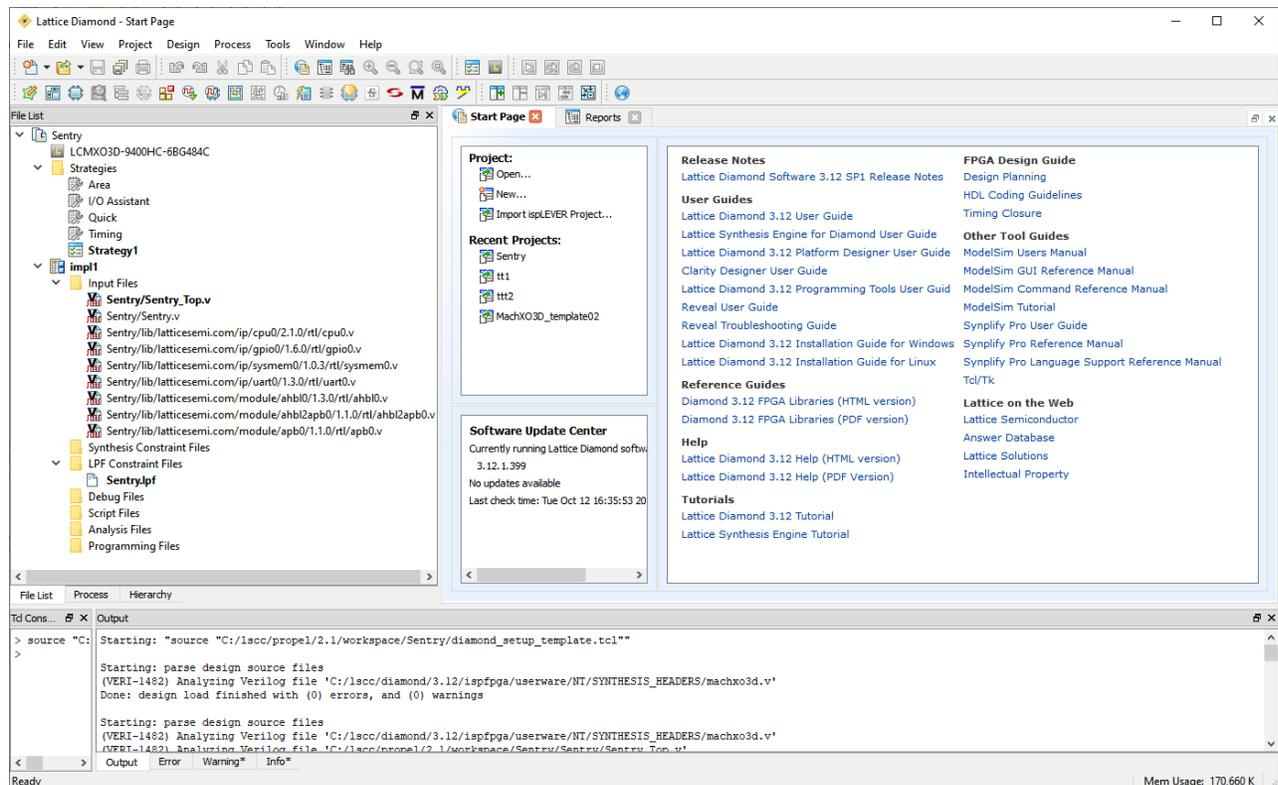

Figure 2.59. Diamond Project
- Lattice Diamond is launched with a Diamond project generated for SoC at background (Figure 2.59).